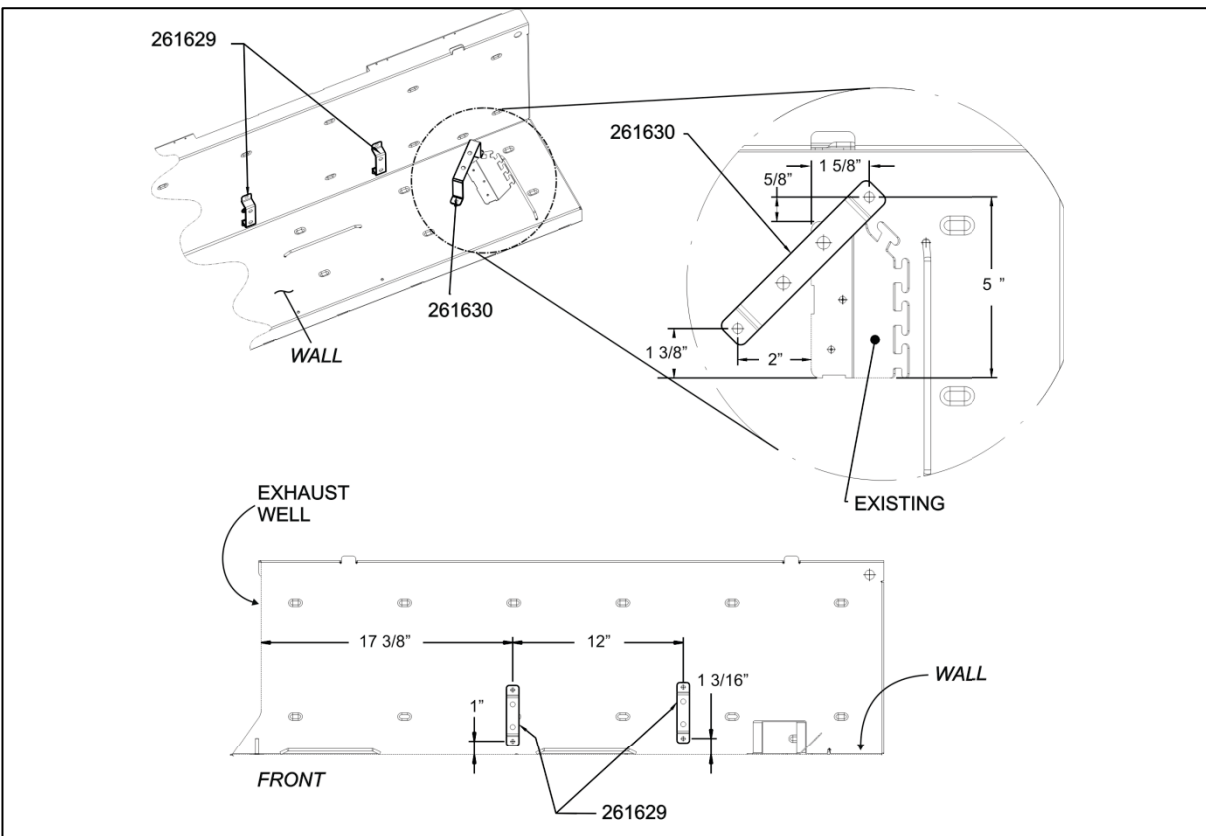

Figure 14 Support Layout for Vehicles From B-5064 up to C-5259 incl.
19. For **261629**, as a reference for measures, use wall and exhaust well edge (above exhaust bellows section) (Fig 14 or 15)
20. Vehicles from **B-5064** up to **C-5259** included require two **261629** brackets, (Fig. 14, 17)
26. Route hoses according to figure 14. *Do not tighten cable ties to allow adjustments.*